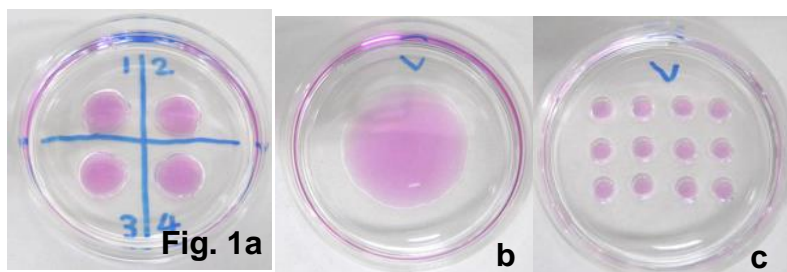

Fig. 1a
- 1) For oocyte collection and fertilization: a 35 mm plastic dish (per four females) containing four 80 µL drops of 1.25 mM reduced glutathione (GSH) ·mHTF medium\* overlaid with oil (Fig. 1a).
- 1) Collect mature MII oocytes from females who have been induced to superovulate, and place them into the 80 µL drops of GSH-mHTF medium (Fig. 1a).